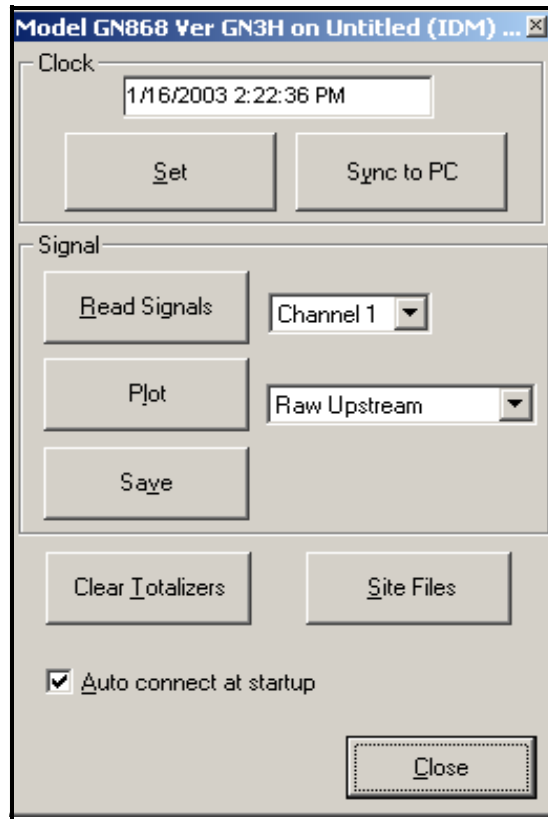

Figure D-11: Active Signal Options in Properties Window
1. Click on the *Read Signals* button. (If the meter is a multi-channel instrument, open the Channel drop-down menu and click on the desired channel.) After a moment, the *Properties* window appears similar to Figure D-11 below.